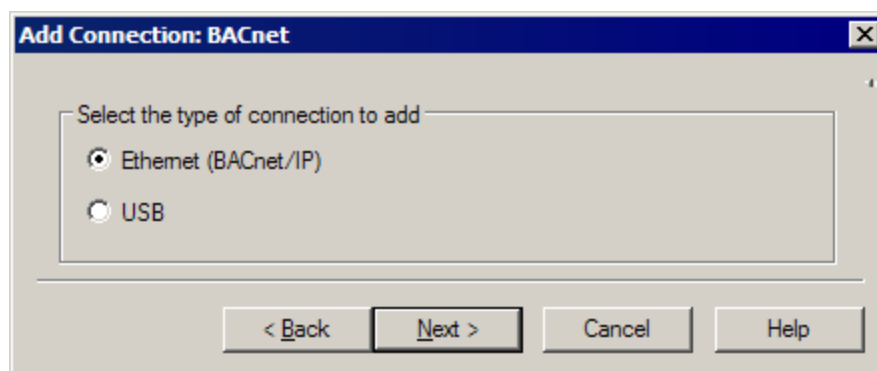

Figure 5-4: Select Ethernet (BACnet/IP)
3. Select Ethernet (BACnet/IP), then select Next (Figure 5-4).